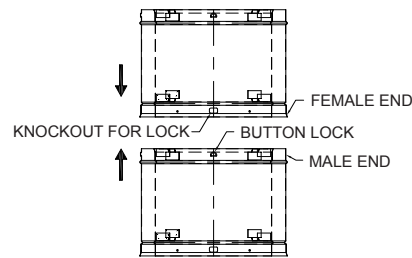

FIG. 3a
6. Install SNAP-PAK chimney sections starting at the SPBSCS. Secure the sections by pushing together until stop-locked (See FIG. 3a). Additional chimney sections may be added to maximum height of 60 feet. At each additional ceiling, a firestop (SPFS) is required. Insert the SPFS into the joist area prepared in step 5. Continue this process for each floor level until the area above the attic.